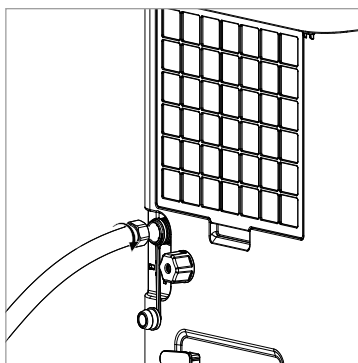

Fig. 4
- ◆ Screw a garden hose onto the 3/4" thread of the water outlet opening 7, which serves as an integrated EU garden hose adapter (see Figure 4).